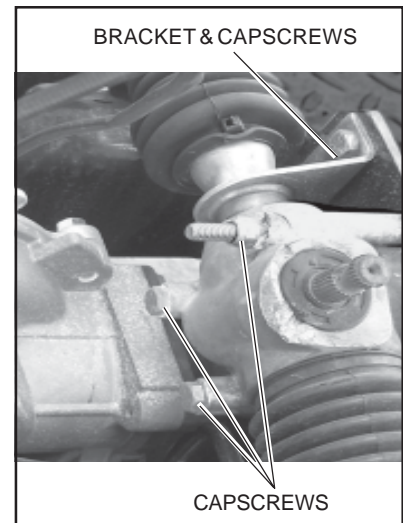

Figure 6
9. Remove three capscrews and hex nuts securing the rack and pinion assembly (Figure 6) to the frame support.
10. Remove two capscrews and lock nuts securing the right side rack bracket (Figure 6) to the machine frame.